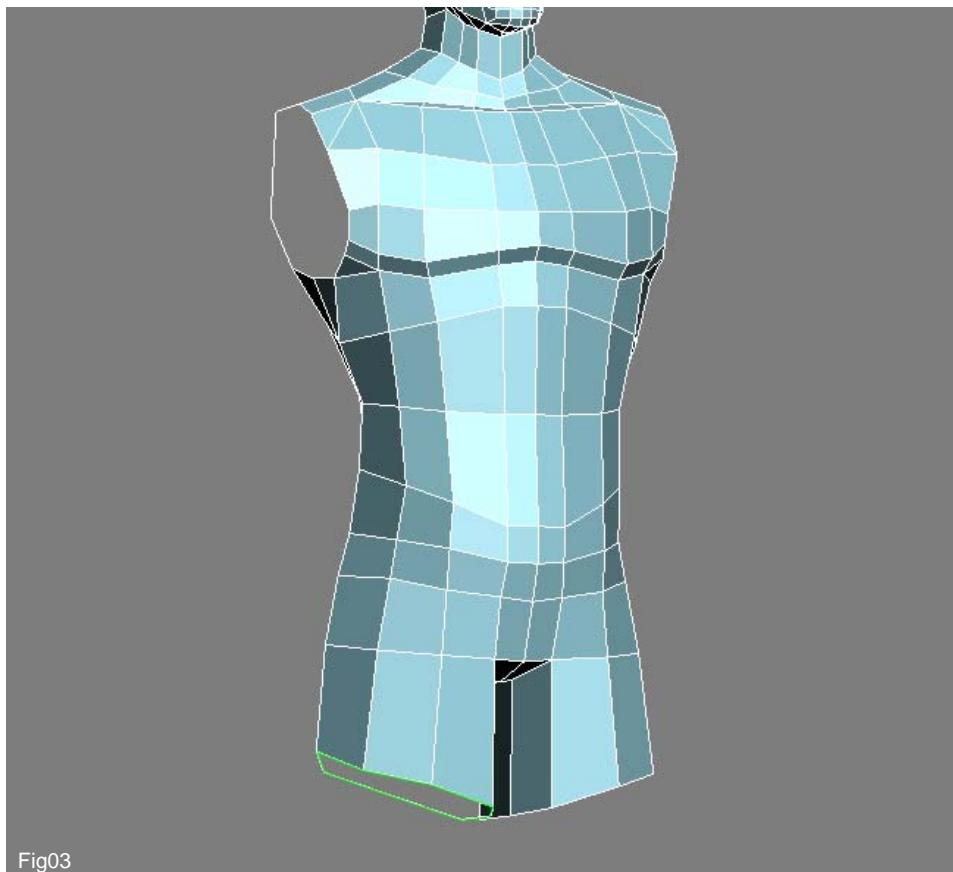

Fig03
3. Make sure you reposition the verts to form a decent shape and then extend the edges downwards using "Shift" and dragging as we have done previously to begin creating the upper thigh (Fig03).